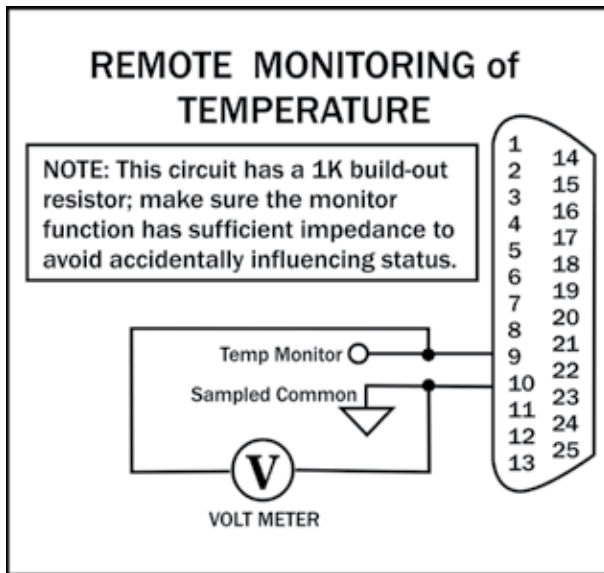

Figure 7.12 – Remote Monitoring of Temperature
**Method:** Connect a voltage meter to monitor the temperature at the heatsinks of the amplifier. Connect across PIN 9 (TEMP MONITOR) and PIN 10 (Sampled Common). See **Figure 7.12**.